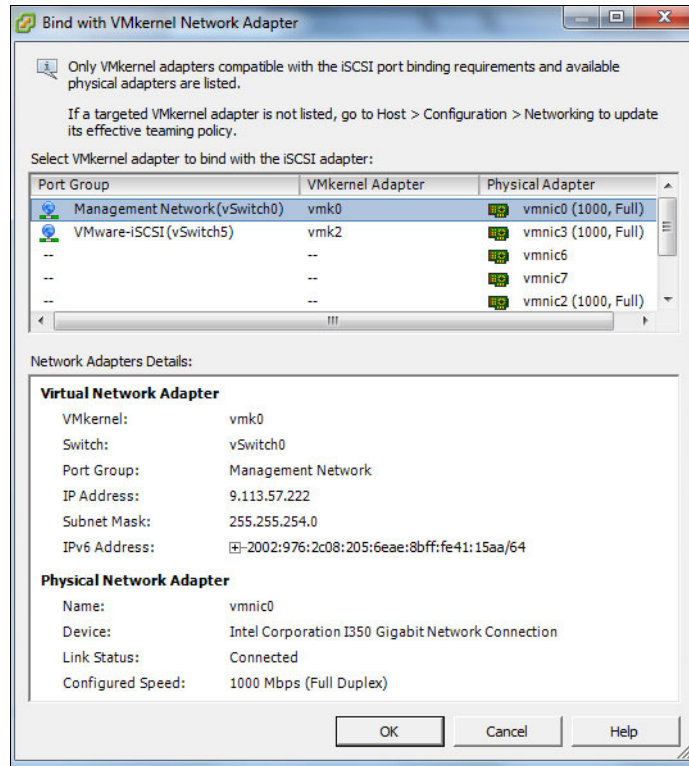

Figure 7-50 Binding with the VMkernel Network Adapter
- b. Click **Network Configuration** → **ADD** to bind the network adapter to the iSCSI adapter, as shown in Figure 7-50.